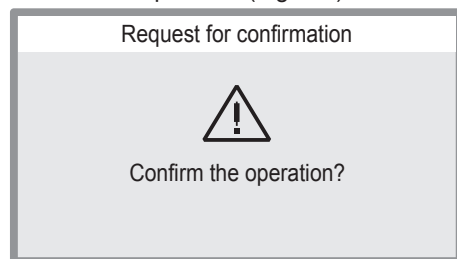

Fig. 3.5
- Press key 14 and wait 1 second.
- Press key 14 again.
- Press key 15 to reset the fault or key 16 to cancel the operation (Fig. 3.5).